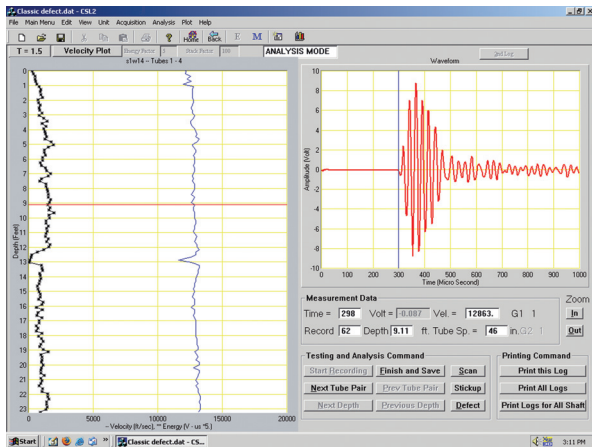

Figure 28: Velocity and Energy Plot
6. Velocity and Energy Plot: Alt+6 or Plot/Log, Plot/Velocity and Energy Plot (see Fig. 28)